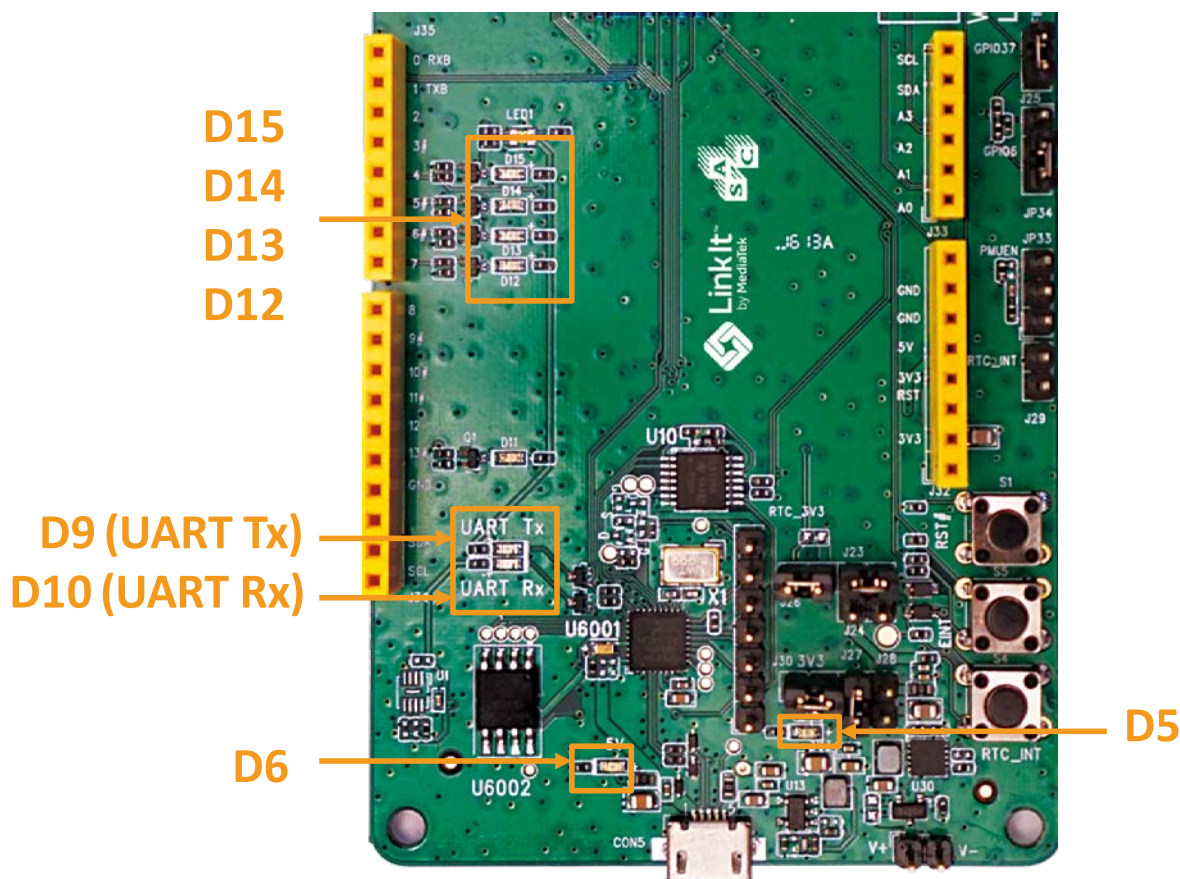

Figure 5. On-board LEDs
The LinkIt 7687 HDK has onboard LEDs associated with different functionalities of the board (Figure 5).
5) **D11, D12, D13, D14,** and **D15** are LEDs assigned for user interaction. All LEDs are high active (Figure 5). GPIO pins to activate the LEDs are shown in Table 3.